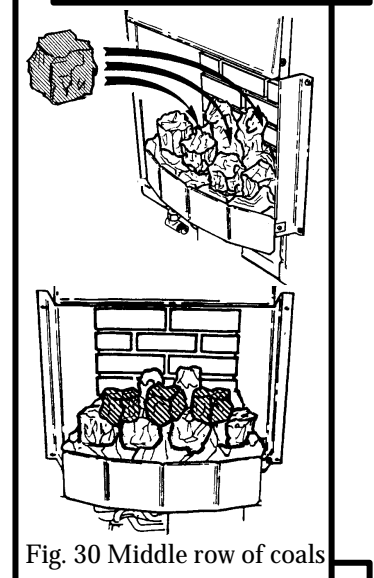

Fig. 30 Middle row of coals
10.4.2 Place the three remaining medium size coals behind and approximately midway between each of the coals in the front row (See figure 30).